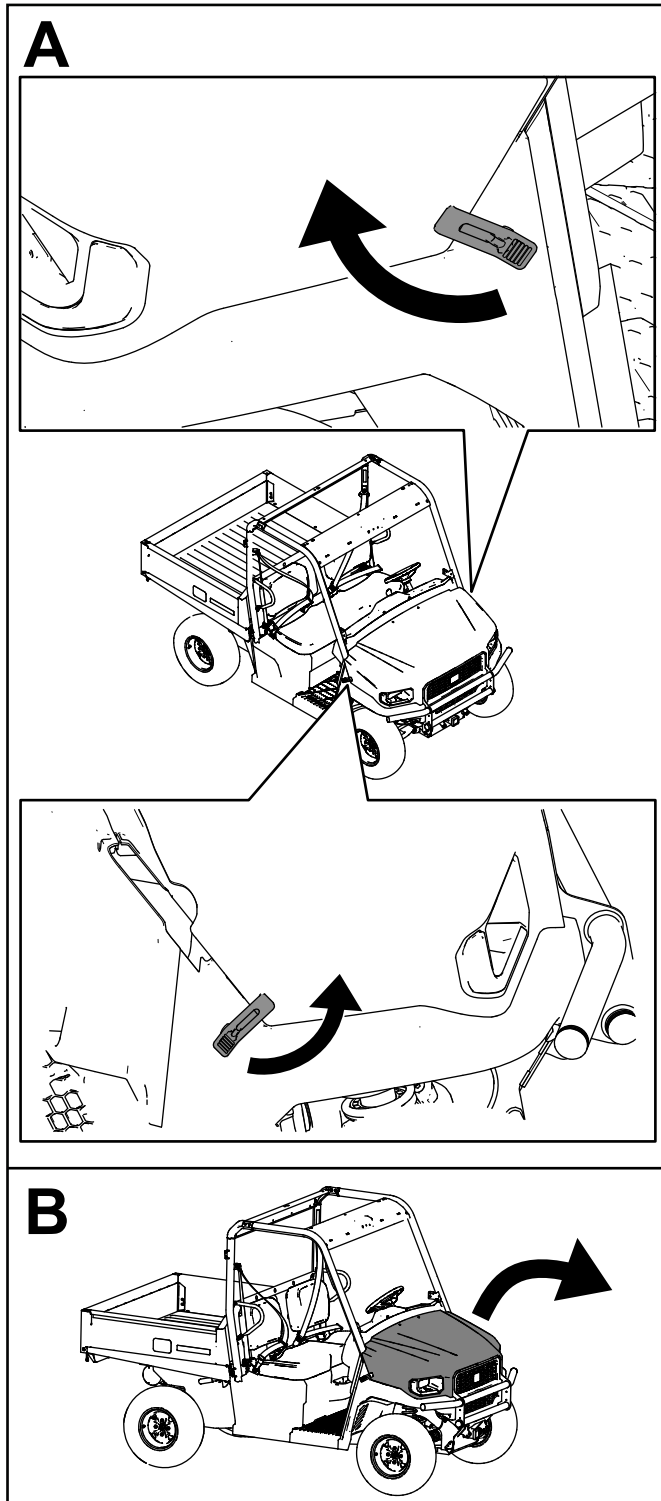

Figure 78
2. Secure the hood by aligning the rubber latches onto the latch anchors on each side of the hood (Figure 78).